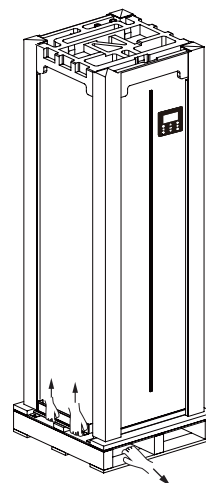

Fig.2-4
- Four people hold the sheet metal lifting machine, one of them pull the wooden base (Refer to Fig.2-4).